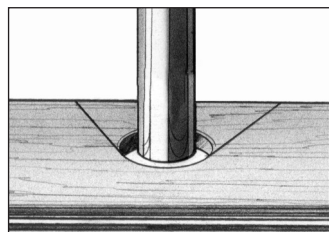

Fig. 40
7. Cut in from the edge at a 45° angle towards the holes in the piece (Fig. 40).